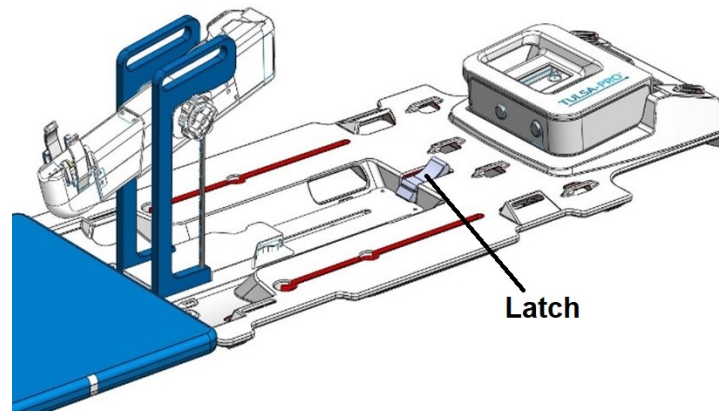

Figure 21: Secure the Positioning System using the latch on the base plate
2. **MRI Technologist:** Place the PSIB in its slot at the foot of the base plate. Secure the Positioning System (PS) to its slot on the base plate between the patient's legs by closing the latch (*Figure 21*).